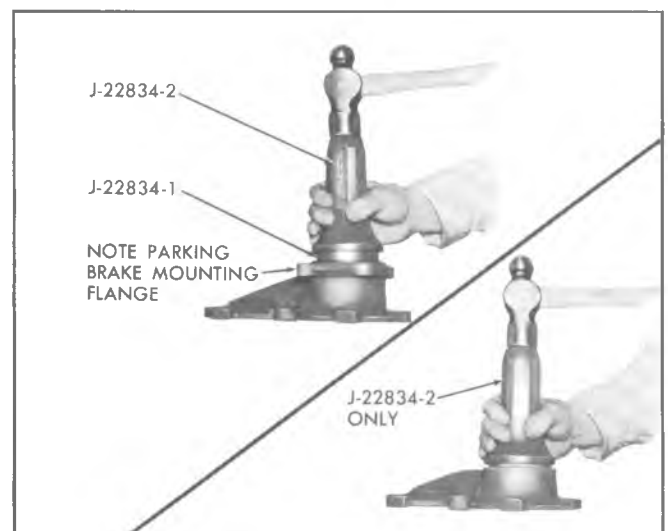

Fig. 13—Replacing Rear Retaining Oil Seal
- f. Coat outer diameter of new oil seal with sealing cement. Install oil seal in rear bearing cup using a suitable installer. Drive seal flush with outside of rear bearing cap, being careful not to damage seal as shown in Figure 13.